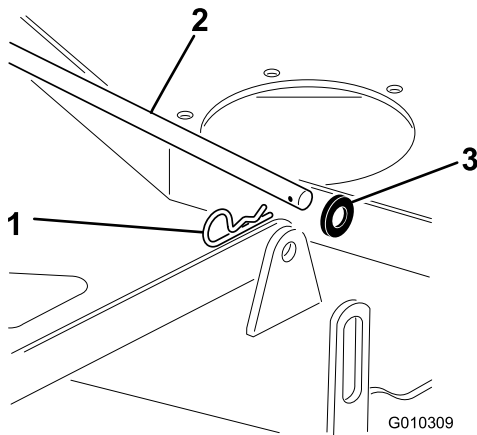

Figure 69
1. Remove the hair pin cotter and washer securing the long, link bar to the frame and deck; remove the link bar (Figure 69).
7. Install the long, link bar through the frame hanger and deck. Secure the link bar with the hair pin cottes and washers removed previously (Figure 69).